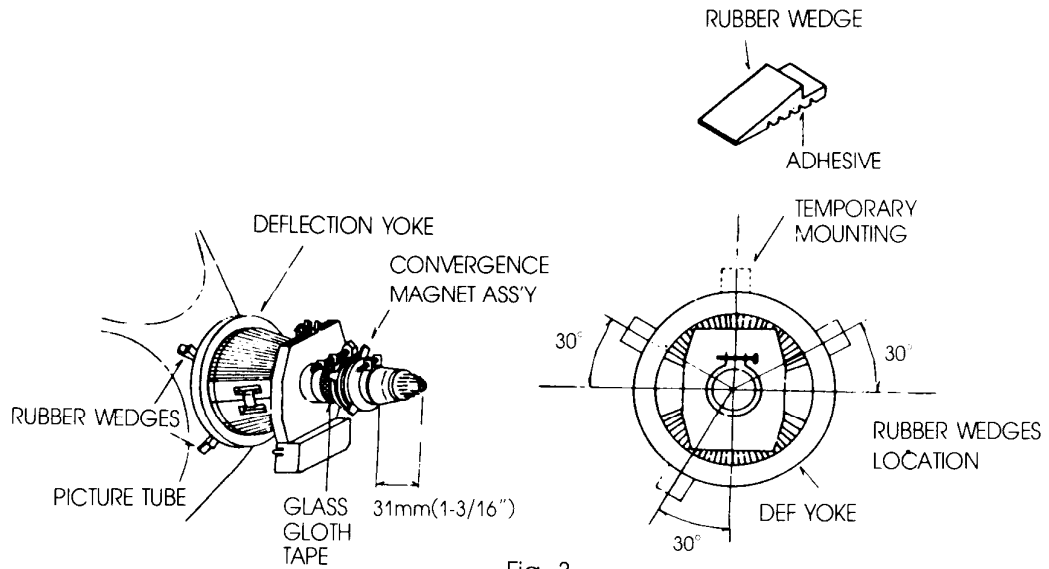

Fig. 3
Convergence magnet assembly and rubber wedges need mechanical positioning following the figure 3.
- b) Place a wedge as shown in figure 3 temporarily. (Do not remove cover paper on adhesive part of the wedge.)
- i) Stick 3 adhesive tapes on wedges as shown in figure 3.